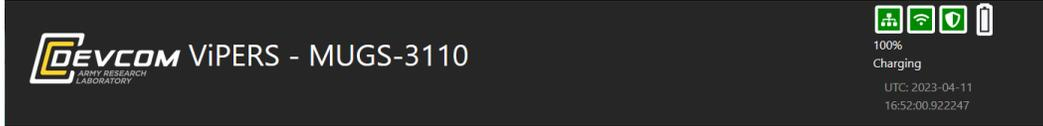

Fig. 4 ViPERS navigation bar shown at the top of all pages
DEVCOM ViPERS logo. Immediately to the right of that is the system name or “host name” (Fig. 4). By default, this is set based on the serial number (SN) of the device. For example, if the SN of an MPM is SN3007, the host name on display at the top left will be MPM-3007.